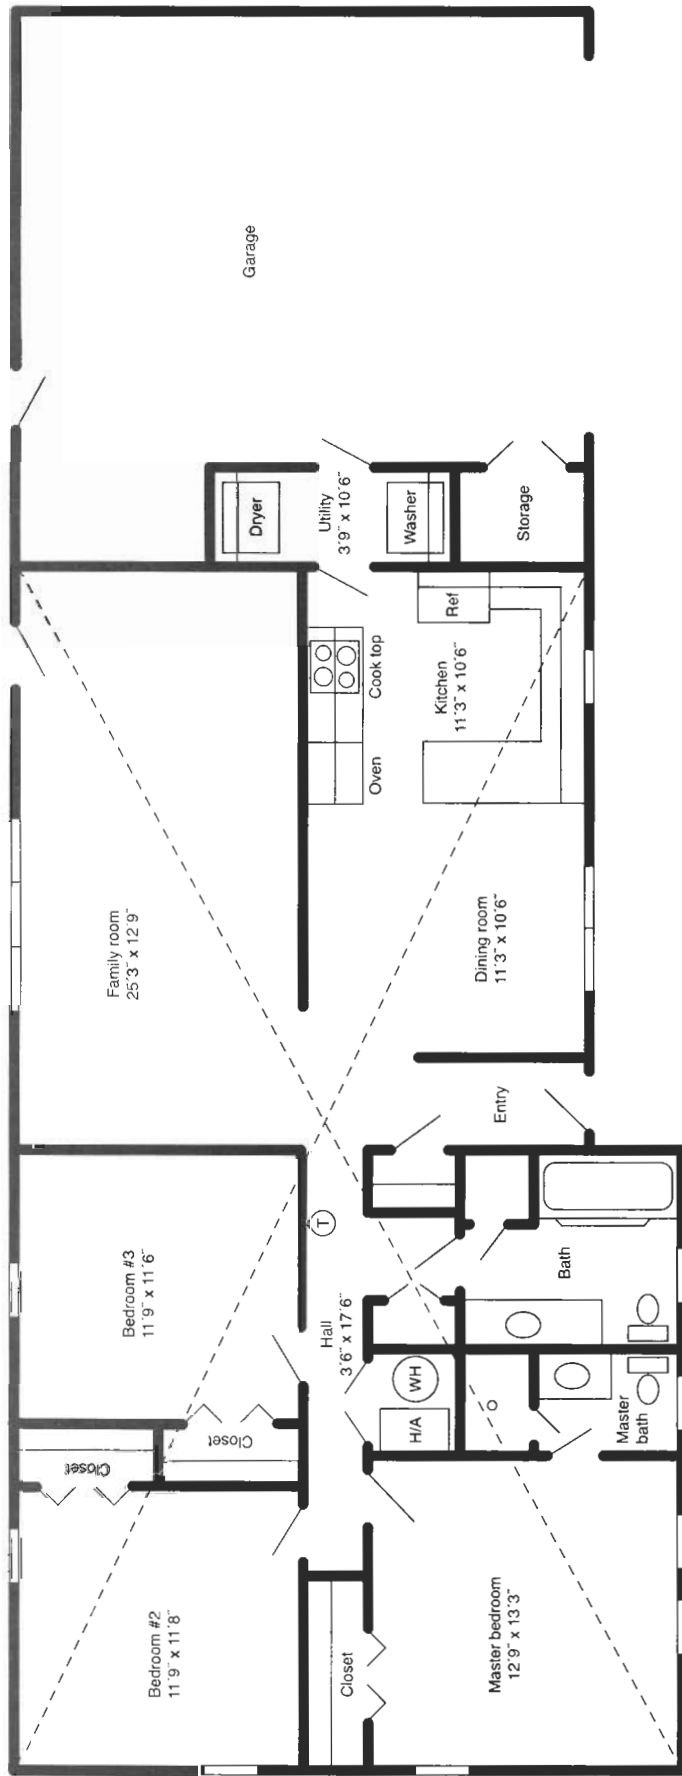

Figure 2. Small single-floor residence with indoor unit near center of structure
Structures with less than 1,500 to 1,800 ft² and relatively simple floor plans lend themselves well to the utilization of one system, as long as the indoor air handler or furnace is located as close as possible to the geographic center of the structure. However, if the floor plan is complicated or if the indoor air handler or furnace location necessitates extremely long duct runs, either zoning or the use of two or more systems may be desirable. Figure 2 on page 3 shows a small single-floor residence. The indoor section of the system (H/A) is located near the geographic center of the structure. Note also the location of the thermostat (T).